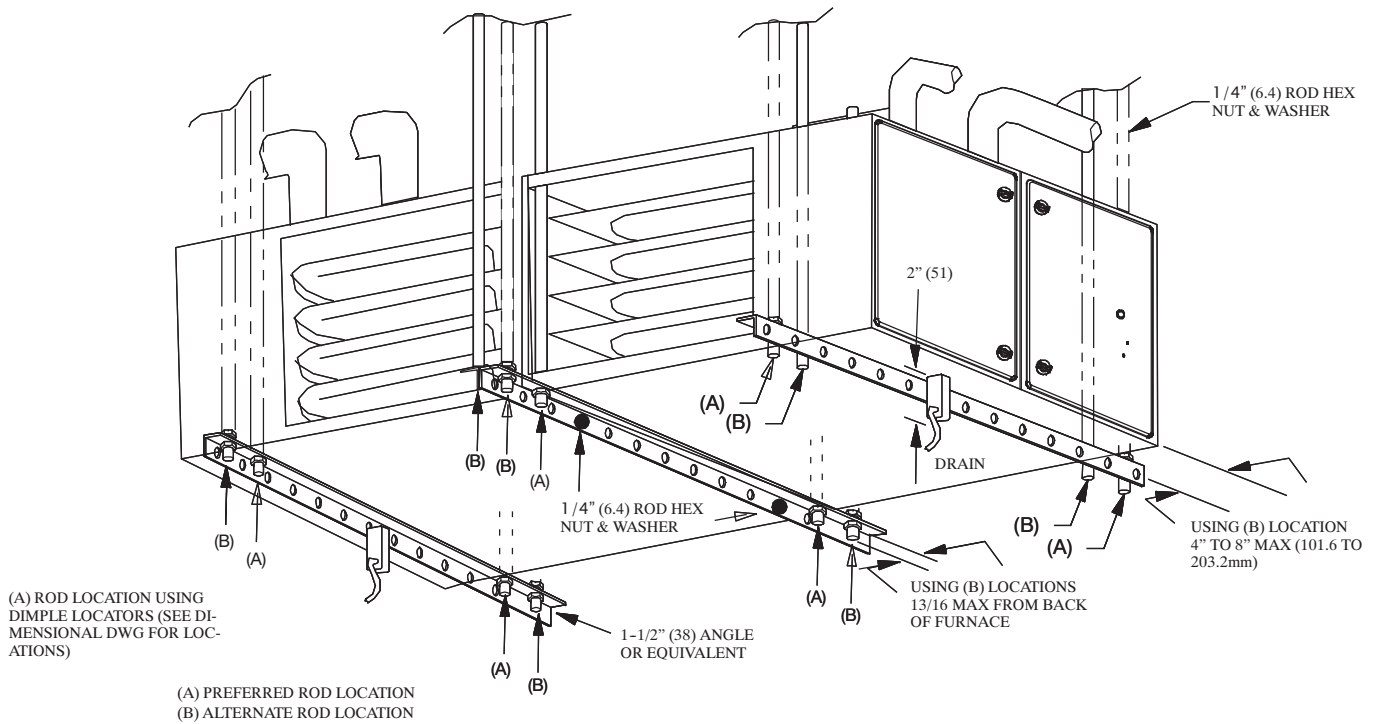

Fig. 9 – Suspended Installation of Furnace
1. Furnaces may be suspended using two (2) pieces of 1-1/2-in. x 1-1/2-in. x 1/4-in. (38 mm x 38 mm x 6 mm) thick cold rolled angle iron underneath each furnace and four (4) 3/8-in. (10 mm) diameter threaded rods. Angle iron must be positioned as shown in Fig. 9.
3. Each piece of angle iron must be secured to the bottom of each furnace with at least two (2) #8 x 3/4-in. (19 mm) sheet metal screws.
4. Drill four 5/16-in. (8 mm) holes through the angle iron and through each side of the casing for the suspension rods as shown in Fig. 9.